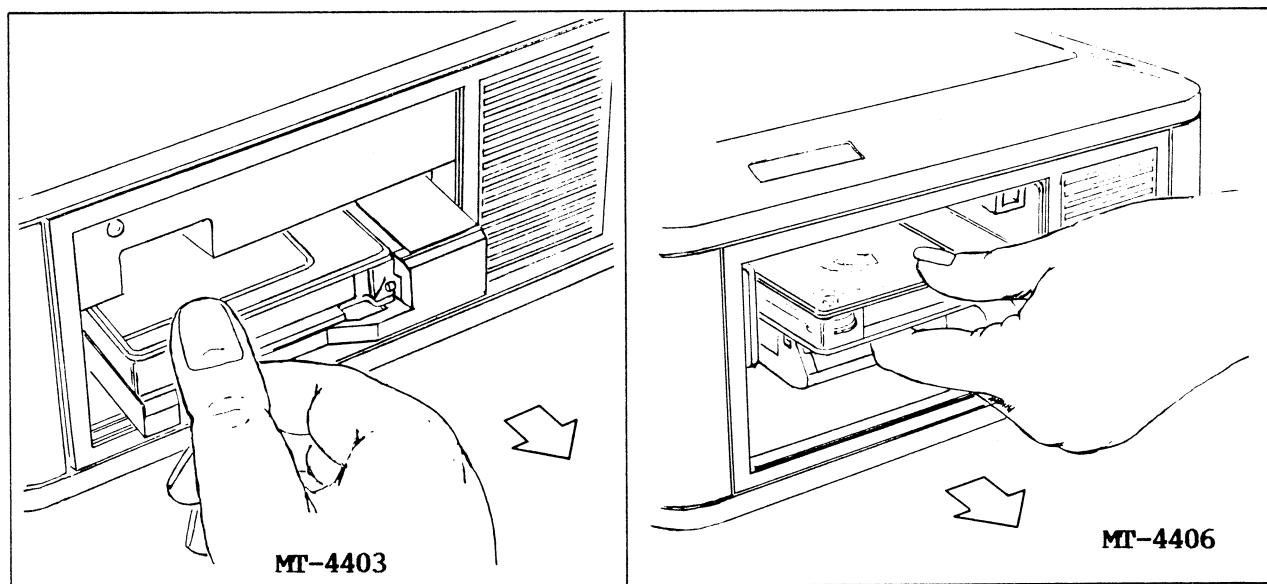

Figure 3-6. Inserting the MICS Tape Cartridge
3. MT-4403/MT-4406. Insert the tape cartridge, as shown in figure 3-6.